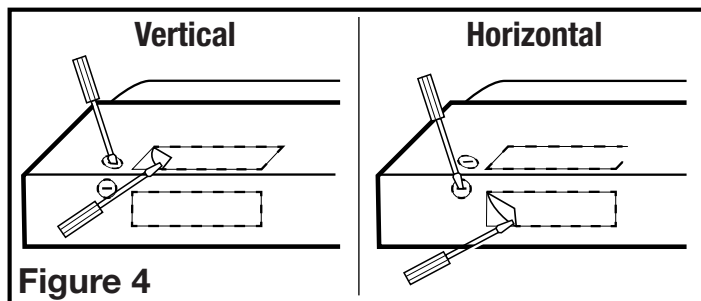

Figure 4
- Remove the appropriate square knockout by inserting a screw driver under the edge and break the tabs holding it in place. Peel back with pliers (**Figure 4**).
- Determine where the electrical service will enter the hood and remove the appropriate electrical knockout by inserting a screw driver into the slot and rocking back and forth until the knockout comes loose (**Figure 4**).